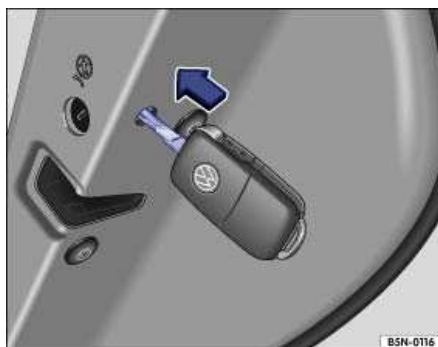

Fig. 36 Using the key to lock the vehicle.
- Insert the key horizontally into the opening and press the small colored lever to the front ⇒ Fig. 36.